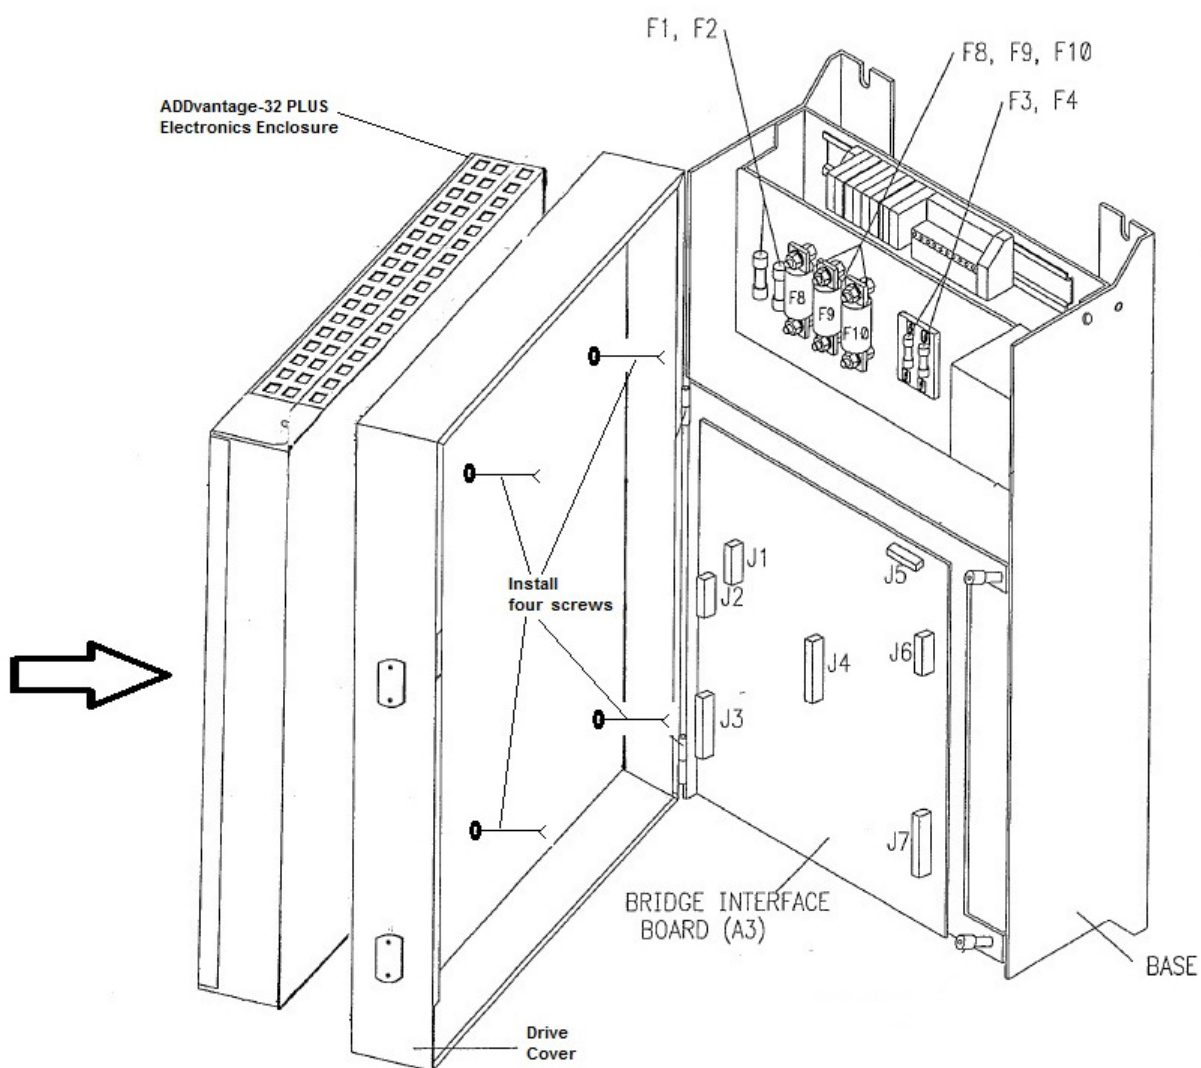

Figure 12-5. Install the ADD-32 PLUS electronics enclosure to the drive cover with the four screws.
6. Reuse the four screws removed in step 5 to install the ADDvantage-32 PLUS electronics enclosure as shown in Figure 12-5.